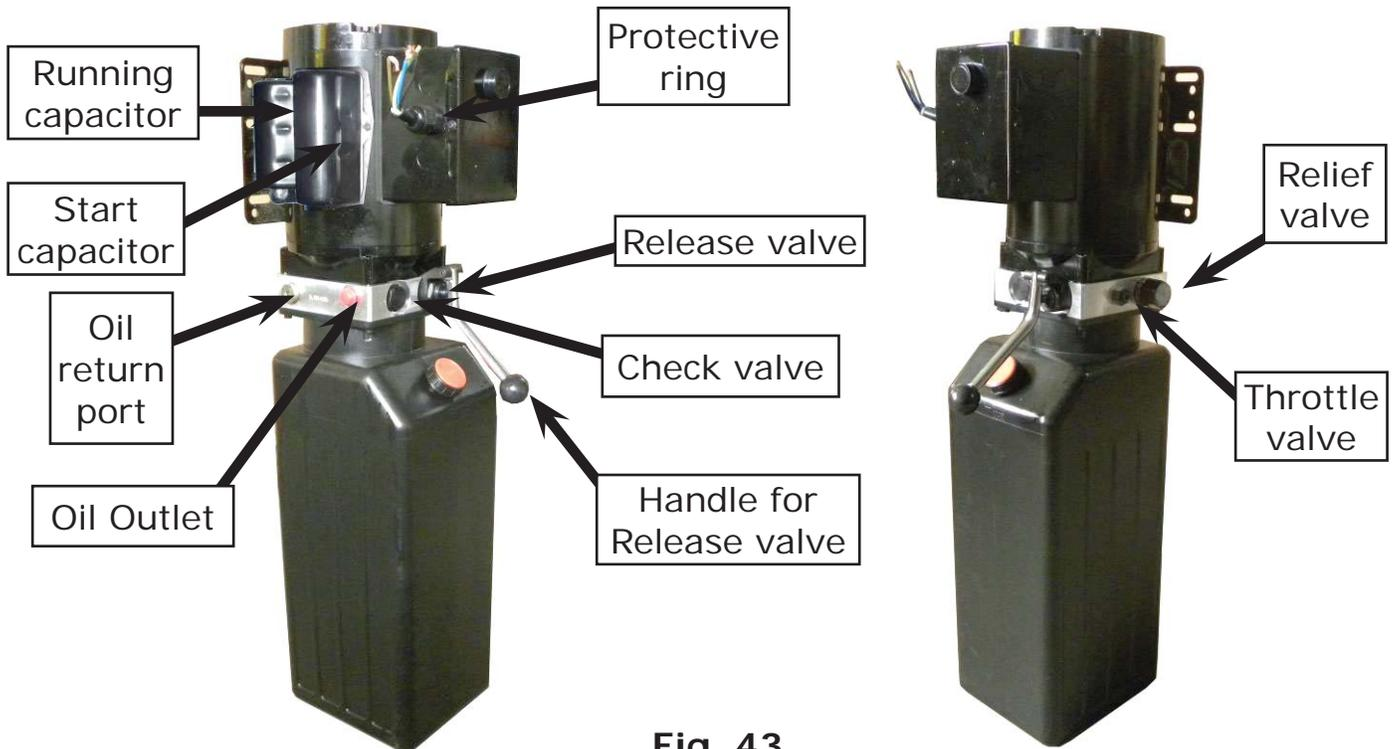

Fig. 43
b. ATLAS hydraulic power unit (See Fig. 43)